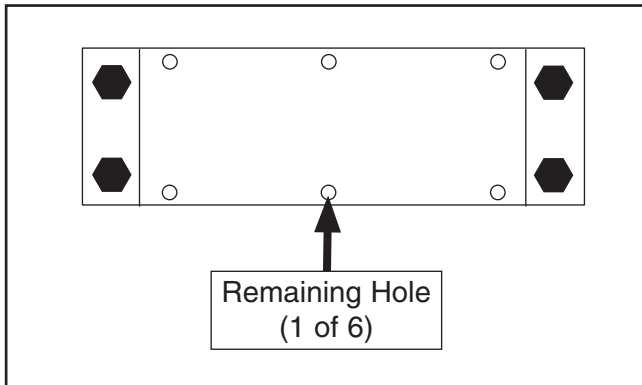

Figure 5. Location of housing mounting holes.
3. Install (6) $\frac{3}{8}$ "-16 x $\frac{3}{4}$ " hex bolts, (12) $\frac{3}{8}$ " flat washers, and (6) $\frac{3}{8}$ "-16 hex nuts in remaining holes of mounting bracket (see **Figure 5**) so they do not extend more than $\frac{1}{2}$ " from bracket to the top of the head, but leave them out enough to slide housing over. This will prepare you for mounting instructions described in **Assembly** on **Page 6**.